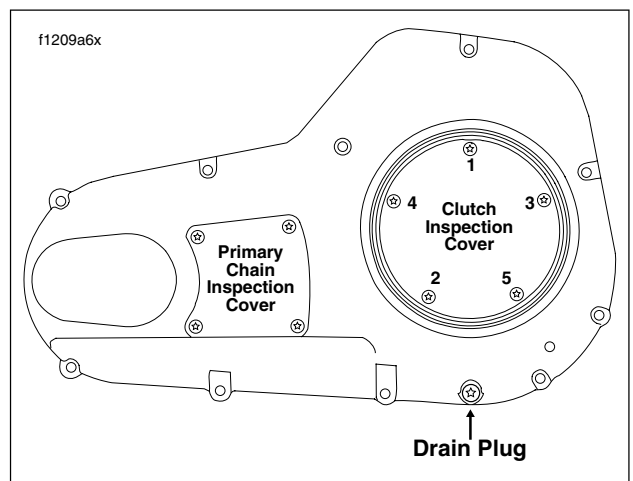

Figure 1-3. Primary Chaincase Cover
3. See Figure 1-3. Using a T27 TORX drive head, remove four screws to free the primary chain inspection cover from the primary chaincase cover.
1. Using a T40 TORX drive head, remove magnetic drain plug at bottom of primary chaincase cover. Drain lubricant into suitable container. See Figure 1-3.
- Using a T27 TORX drive head, install five screws (with captive washers) to secure clutch inspection cover to the primary chaincase cover. Alternately tighten screws to 84-108 in-lbs (10-12 Nm) in the pattern shown in Figure 1-3.
11. Using a T27 TORX drive head, install five screws (with captive washers) to secure clutch inspection cover to the primary chaincase cover. Alternately tighten screws to 84-108 **in-lbs** (10-12 Nm) in the pattern shown in Figure 1-3.